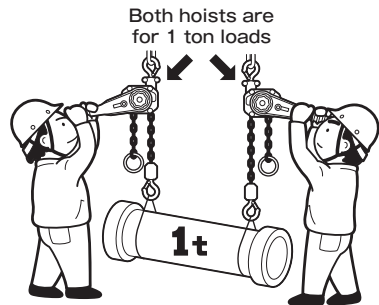
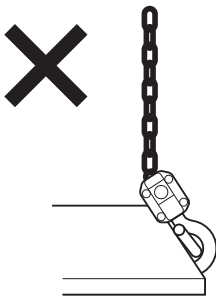
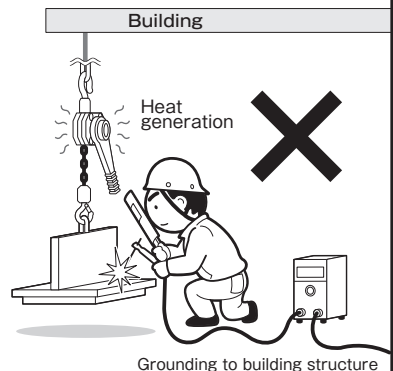

Figure 13
Figure 14
Figure 15
- (11) Never apply loads exceeding the rated load on a single unit of this equipment when performing two-hoist lifting. (Figure 13)
- (12) Never over-wind or over-lower loads.
- (13) Never suspend a load with the tip portion of the hook. (Figure 14)
- (14) When suspending loads from the hook, never operate the hook in such a way that a lateral load is applied to either the top or bottom hooks.
- (15) Do not leave the load suspended for a long time.
- (16) Do not connect the grounding from welding machines to the load chain. (Figure 15)
- (17) Never allow welding electrodes to come in contact with the load chain.
- (18) Do not remove caution labels or nameplates from the unit or use the unit with caution labels or nameplates in an illegible condition.
- (19) Do not use the product if the nameplate affixed to the main unit is illegible.
- (20) Make sure that all personnel are clear of the support load.
- (21) Do not allow sparks from welding, etc. into come in contact with this equipment.
- (22) When lifting or moving a load, notify surrounding workers.
- (23) Never install this equipment without sufficient expertise in the equipment.
- (24) Make sure the location of equipment installation maintains sufficient strength to support the equipment under load.